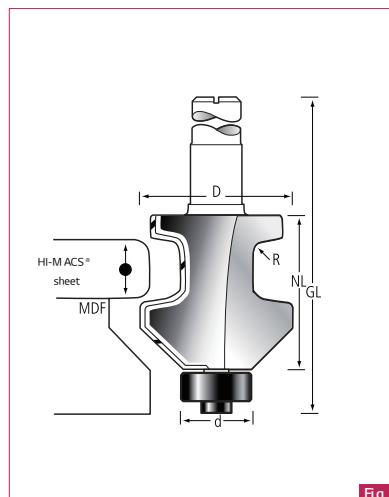

Fig. 2
- 12.4 Always ensure that there is a radius of R 3mm on both sides of the edge of the cut-out (or using a profile router bit.: Titman no XC 341*12). (Fig. 2).
- 13.5** Attach 'A' style spring clamps every 70 mm to 80 mm and allow to cure (approx. 45 min/+20°C). Ensure that, once the clamps have been applied, a reasonable amount of adhesive is forced out from the joint (Fig. 2).